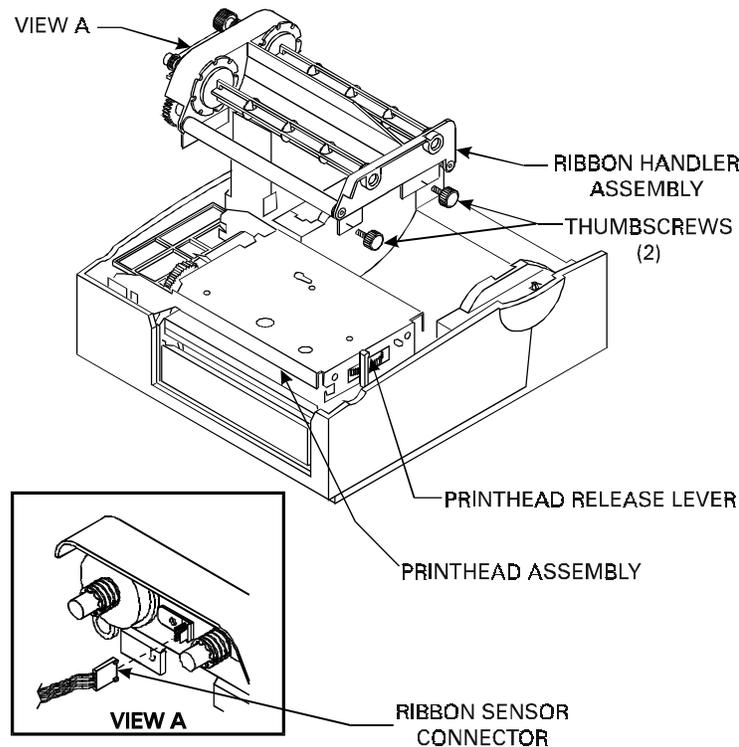

Figure 14. Ribbon Handler Assembly Replacement
3. Remove the two thumbscrews on the side of the Printhead Assembly. Disconnect the Ribbon Sensor connector from the sensor (see Figure 14).
Install the new Ribbon Handler Assembly (see Figure 14).